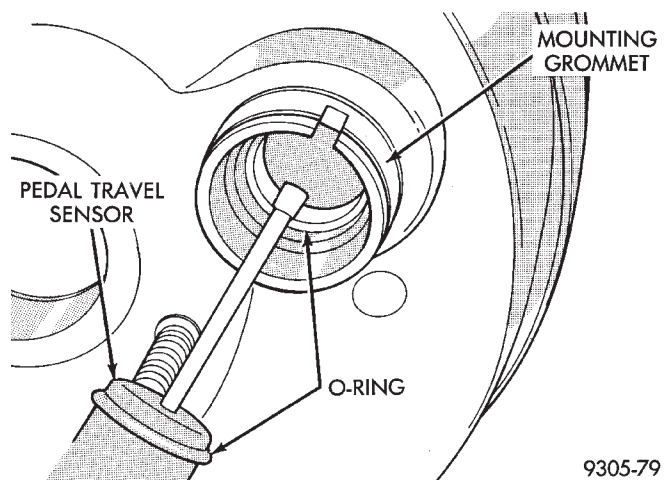

Fig. 3 Pedal Travel Sensor O-Ring Locations
(4) Remove pedal travel sensor from vacuum booster by pulling sensor straight out of power booster. After pedal travel sensor is removed from power booster be sure O-Ring is either on pedal travel sensor or remained in the travel sensor mounting grommet (Fig. 3).